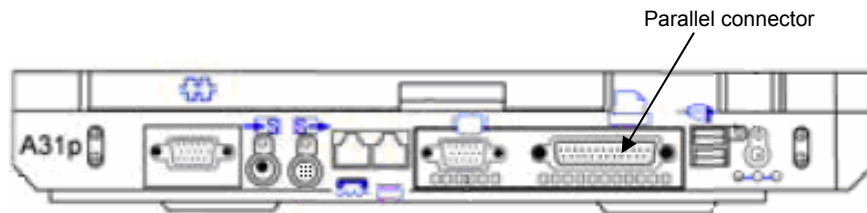

Figure 12-8.- Printer (top view/back view), PGSC (parallel port).
(see figure 12-8)
Connect RJ-45 network cable to Printer Network RJ-45 Port (see figure 12-8)
Connect parallel cable between Printer Parallel Port and KFX PGSC Parallel Port (see figure 12-8)
- Printer 3. Printer pwr – on (see figure 12-8)
Disconnect RJ-45 network cable from Printer Network RJ-45 Port (see figure 12-8) |
Disconnect parallel cable between Printer Parallel Port and KFX PGSC Parallel Port (see figure 12-8) |